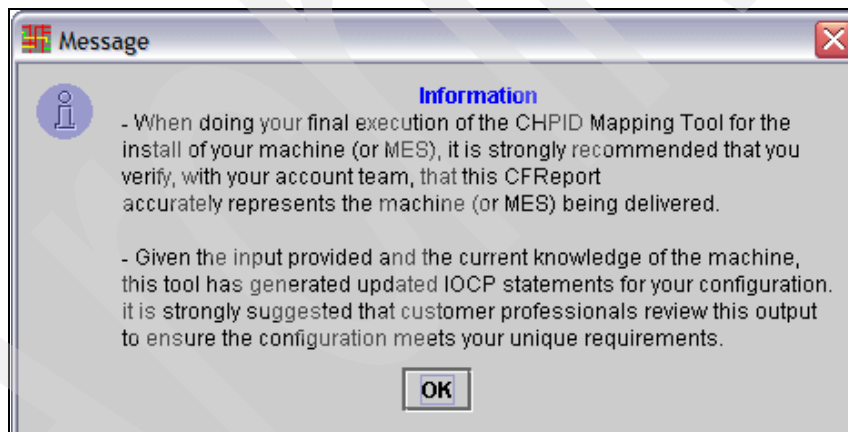

Figure 3-72 CMT - Informational message
3. The CMT displays an informational message, shown in Figure 3-72, regarding what to do for the final execution of the tool.